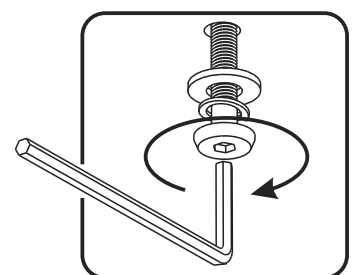

Figure 1
Attach Seat (B) to Base (A) with 8 pcs. of **01**, **02**, and **03**, tightening **01** only halfway by using Hex Wrench. (See Figures 1)